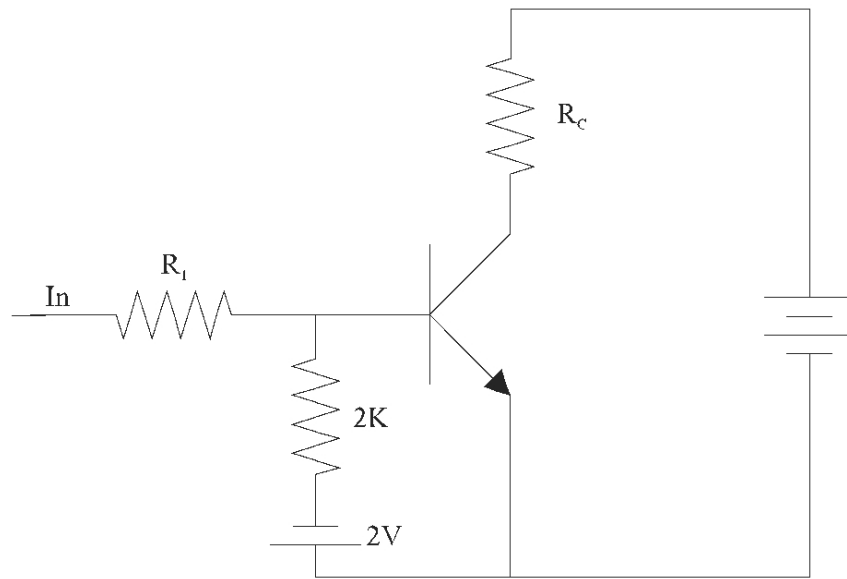

Figure 7-6-3. Bipolar transistor switching.
5. Assemble the circuit shown in Figure 7.6.3 and apply a square wave signal to the input of the transformer.
6. Observe the output signal of the circuit in Figure 7.6.3.